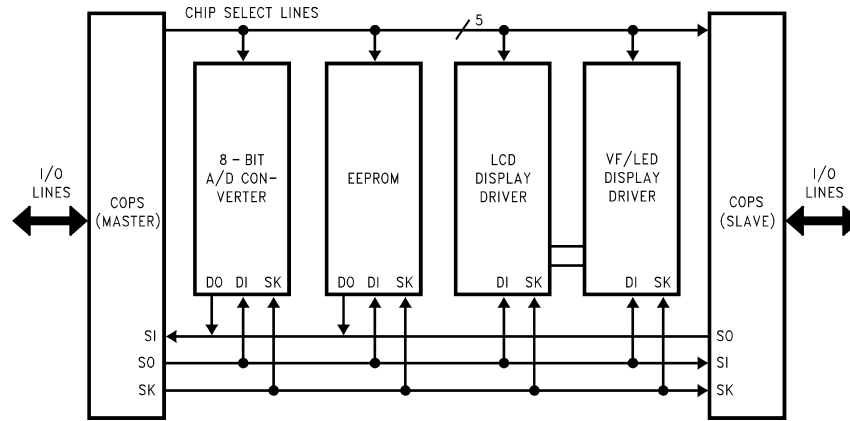

Figure 35. MICROWIRE/PLUS Application
MICROWIRE/PLUS is a serial SPI compatible synchronous communications interface. The MICROWIRE/PLUS capability enables the device to interface with MICROWIRE/PLUS or SPI peripherals (i.e. A/D converters, display drivers, EEPROMs etc.) and with other microcontrollers which support the MICROWIRE/PLUS or SPI interface. It consists of an 8-bit serial shift register (SIO) with serial data input (SI), serial data output (SO) and serial shift clock (SK). Figure 35 shows a block diagram of the MICROWIRE/PLUS logic.
Setting the BUSY bit in the PSW register causes the MICROWIRE/PLUS to start shifting the data. It gets reset when eight data bits have been shifted. The user may reset the BUSY bit by software to allow less than 8 bits to shift. If enabled, an interrupt is generated when eight data bits have been shifted. The device may enter the MICROWIRE/PLUS mode either as a Master or as a Slave. Figure 35 shows how two microcontroller devices and several peripherals may be interconnected using the MICROWIRE/PLUS arrangements.